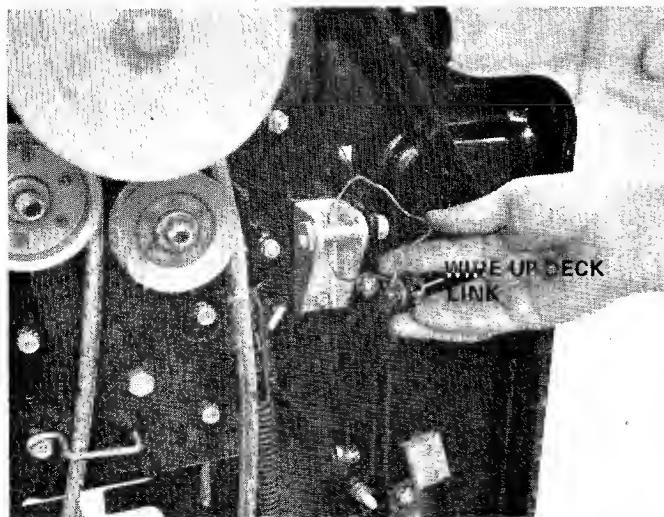

FIGURE 9
4. With a piece of wire hold the front left hand deck hanger out of the way. See figure 9.